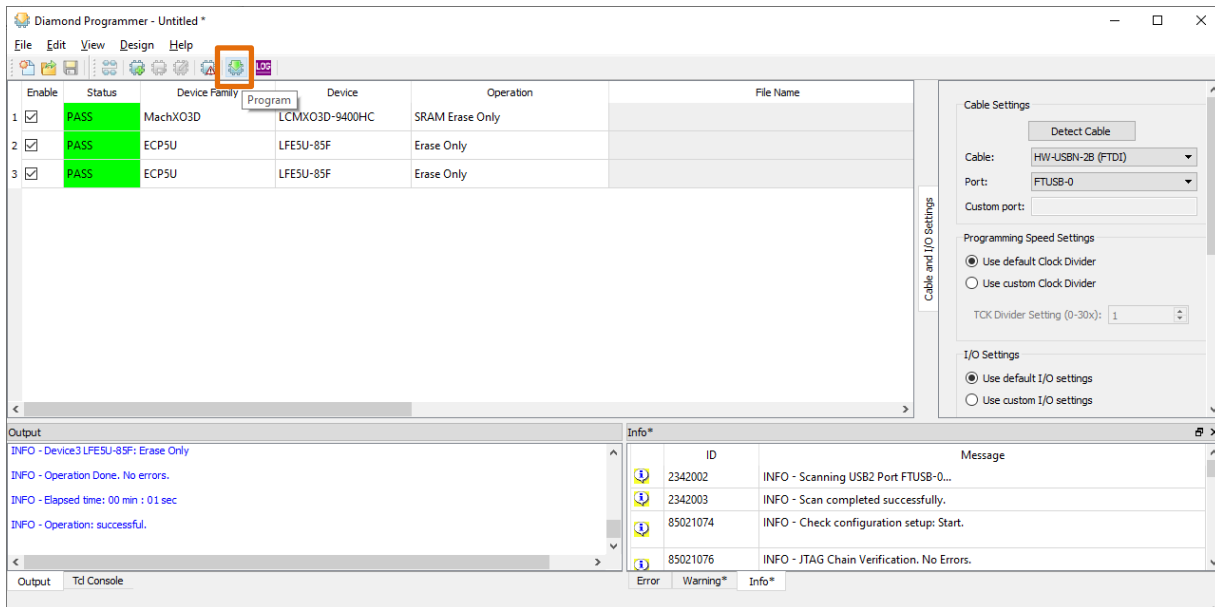

Figure 4.3. Device Operation
- For each device, select **SRAM Erase Only** or **Erase Only** under **Operation** and click the **Program** button as shown in Figure 4.3.